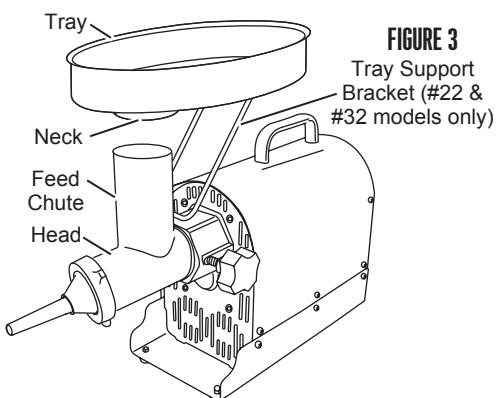

FIGURE 3
7. Insert the neck of the Tray into the Feed Chute (**FIGURE 3**). Plug into electrical outlet.
8. NEVER operate Grinder without the Tray secured in place (**FIGURE 3**).